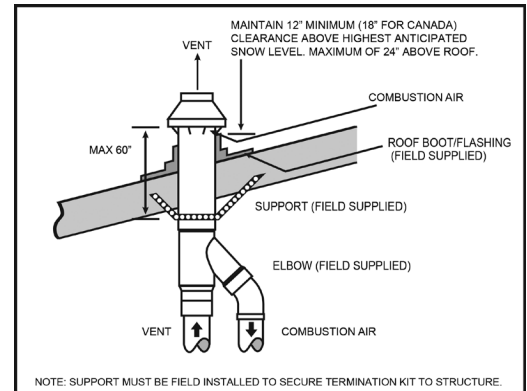

Figure 4 - Roof Installation
5. Secure assembly to roof structure as shown in Fig. 4 using field supplied metal strapping or equivalent support material.
**NOTE:** If assembly is too short to meet height requirements, the two pipes supplied in the kit may be replaced by using same diameter, field supplied SDR-26 PVC (D2241) pipe. Do not extend dimension D more than 60" (See Fig. 4.) **DO NOT USE COUPLINGS TO EXTEND PIPE.**
7. Cement air inlet and exhaust vent pipes to concentric vent termination assembly. See Fig. 4 for proper pipe attachment.